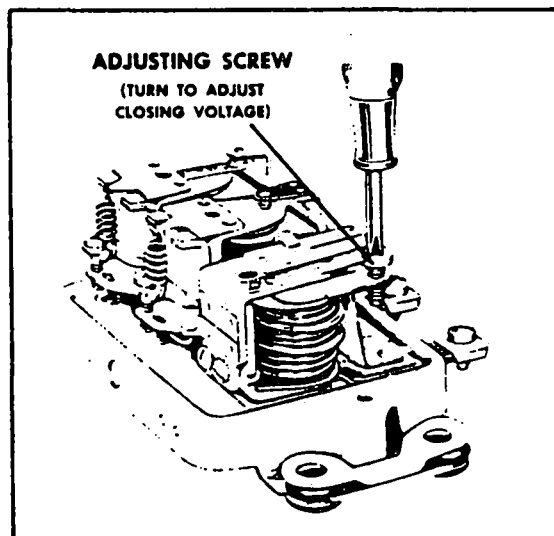

Figure 11-13. Adjustment of Cutout Relay Closing Voltage
d. Adjust closing voltage by turning adjusting screw. (Refer to Figure 11-13.) Turn screw clockwise to increase setting and counterclockwise to decrease setting.